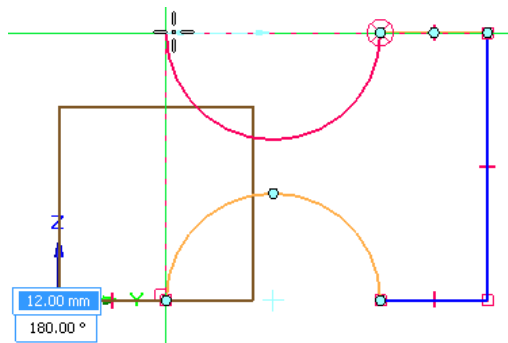

Figure 2-51 Horizontal and vertical dotted lines displayed to define the endpoint of the arc
15. Move the cursor once over the lower arc and then move it toward left in line with the upper right horizontal line from where this arc starts. On doing so, a horizontal dotted line originating from the upper right horizontal line is displayed. At the point where the cursor is vertically in line with the start point of the lower arc, a vertical dotted line appears from the start point of the lower arc, as shown in Figure 2-51.